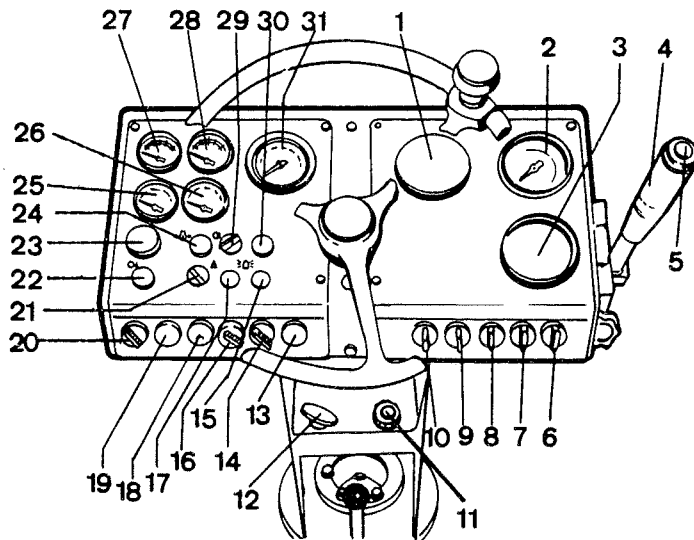

Fig 11 Instrument panel
- 2 Release the parking brake with (21) (see fig 11).
- 4 When driving on asphalt, switch on the sprinkler unit (9).
- 5 Carefully move the forward/reverse lever (4) forwards or backwards - depending on the required direction of travel.